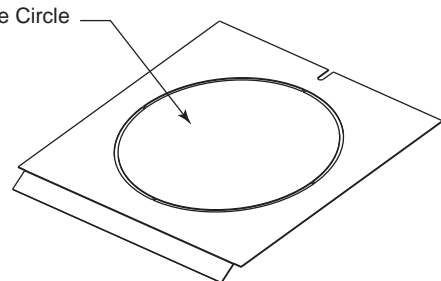

**Figure 10 –
3. Remove the plate with the 4" collar and gasket by removing four (4) screws. Set aside. *Figure 10*
4. Remove the top plate located on top of the unit by removing one (1) screw. Set aside. *Figure 10*